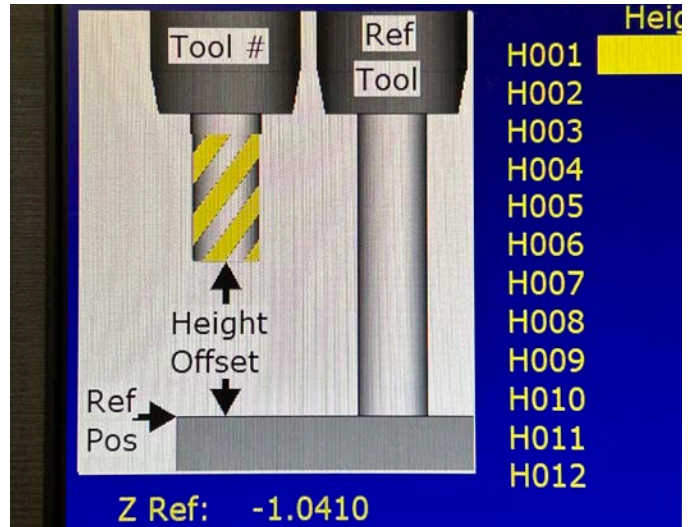

FIGURE 8
**NOTE:** With Parameter #3 set to (0.0000) the Tool – Offset Lib will look like this and use a Z Reference Tool (see Figure 8).